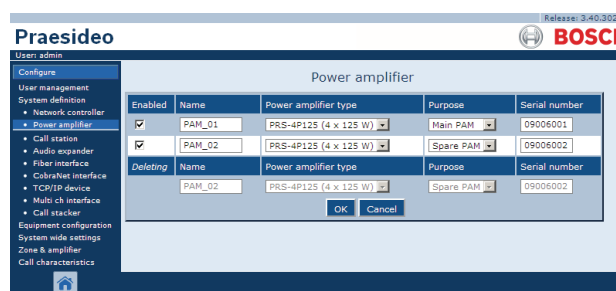

figure 43.10: Delete power amplifier, step 3
- Click the **Delete** button. A screen similar to the one in figure 43.10 appears in the main frame of the web interface.